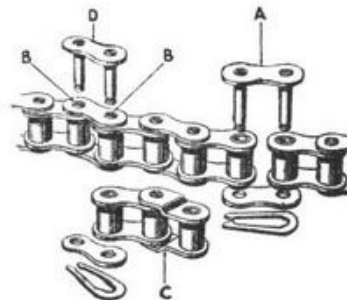
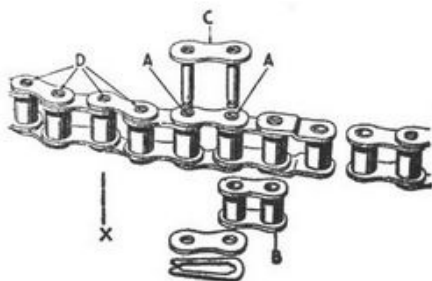

Fig. X8.
Fig. X9.
After a big mileage, the rear chain may have stretched so that no further adjustment is possible by the usual method. In this case it is possible to shorten the chain by one link or pitch, so increasing its useful life. First remove the single connecting spring link (A) securing the two ends of the chain (Fig. X8). If the chain terminates in two ordinary links as in Fig. X8 (in which case the chain will be an even number of pitches) extract the third and fourth rivets (B) from the end and replace the detached three pitches by a single connecting link (C). The connection is made with an additional spring link (D). If one end of the chain has a double cranked link (Fig. X9)—in which case the
If a roller or link has been damaged (X, Fig. X9) remove rivets (D), take out the damaged link and replace with one inner link, secured by two single connecting links.